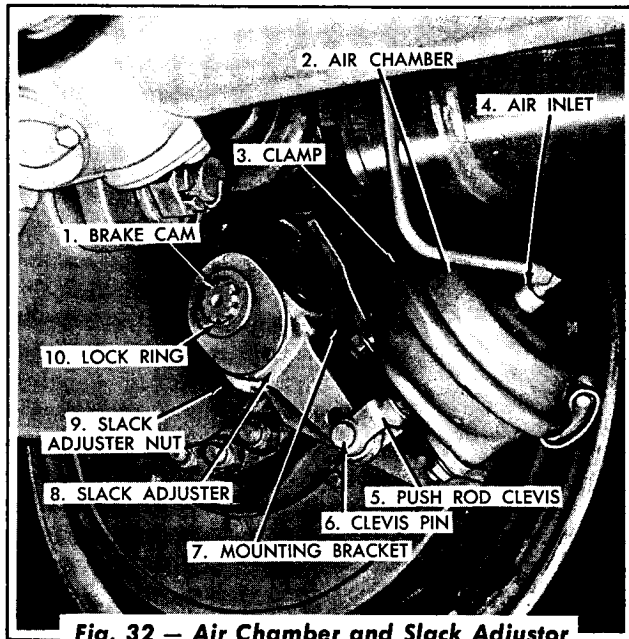

Fig. 32 — Air Chamber and Slack Adjuster Installed
1. Thoroughly clean the air chamber and the surrounding area (Figs. 32 and 33). Disconnect the air hose from the air chamber. Cover the end of the hose.
Turn the slack adjustor nut (Fig. 32) as necessary to obtain 1½" travel of the rotochamber push rod when the brakes are fully applied.